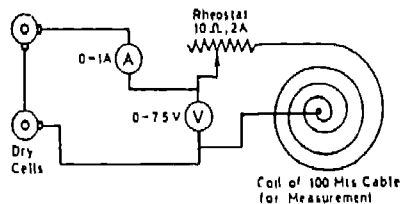

Fig. 13.1 Measurement of Cable Resistance
- (iii) For measurement of resistance of wire/cable coil, make connections as shows in Fig 13.1 Control the current by using rheostat so that volt-ammeter readings are clear and near to full scale deflection. Observe and record the readings.